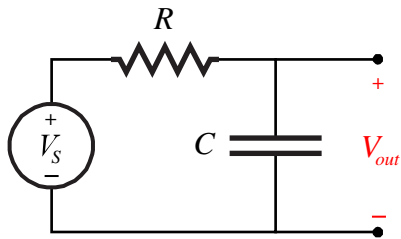

Figure 18: RC circuit
- a. Construct the circuit shown in Figure 18 with $R = 1k\Omega$ and $C = 0.01\mu F$ and V_s being a square wave with a frequency of 1kHz, an amplitude of 1V p-p, and a DC offset of 0V.